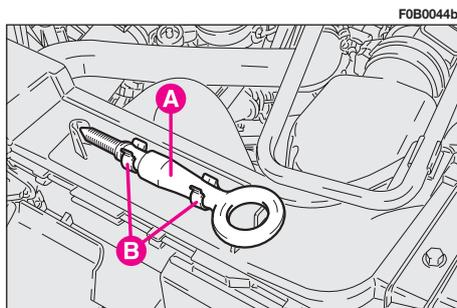

fig. 42
– remove the tow hitch **A**-**fig. 42** from its supports **B**;